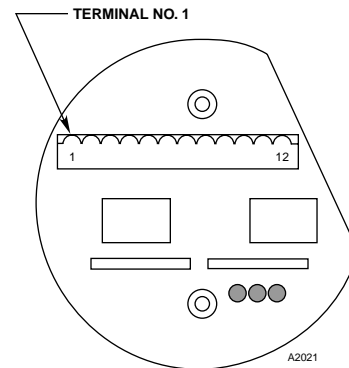
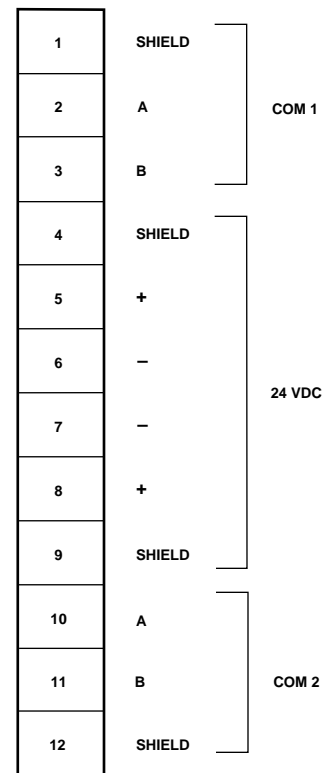

Figure 2—Network Extender Wiring Terminal Location
Figure 3—Network Extender Wiring Terminal Identification
3. Connect the 24 vdc power lead wires and the communication network cables to the appropriate points on the terminal block. See Figure 2 for terminal location within the junction box and Figure 3 for terminal identification. Refer to Table 1 to determine maximum wiring length.